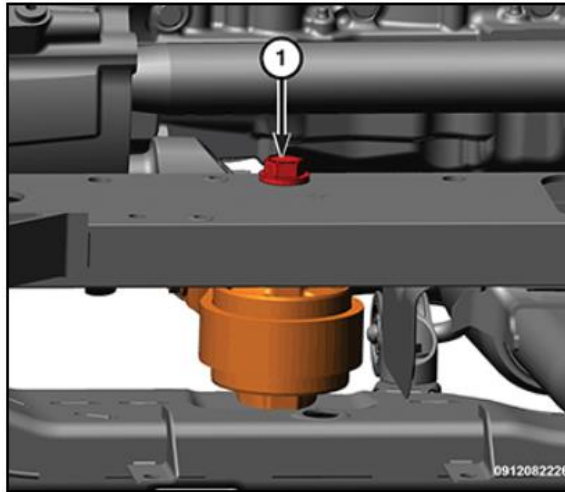

Fig 7. Rear Engine Torque Mount to Cradle
**NOTE:** RU FWD rear engine torque mount shown (Fig 7).
1. Tighten the rear engine mount to crossmember bolt (Fig 7. Labelled 1) to the proper (Torque Specifications).